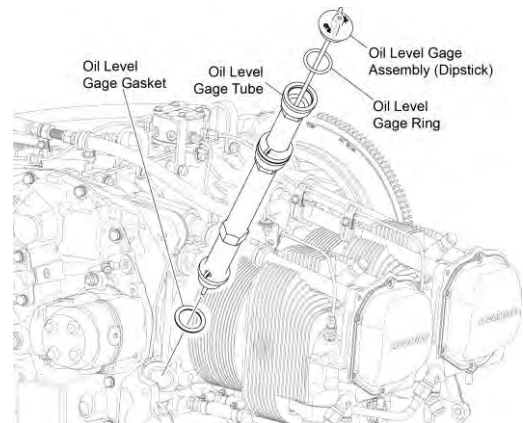

Figure 2
- B. Carefully turn the oil level gage tube (Figure 2) to remove this tube as a unit (with the dipstick, oil level gage ring, and oil level gage gasket) from the engine.
- A. Install a new oil level gage gasket on the oil level gage tube (Figure 2).
- D. Install a new oil level gage ring on the dipstick (Figure 2).